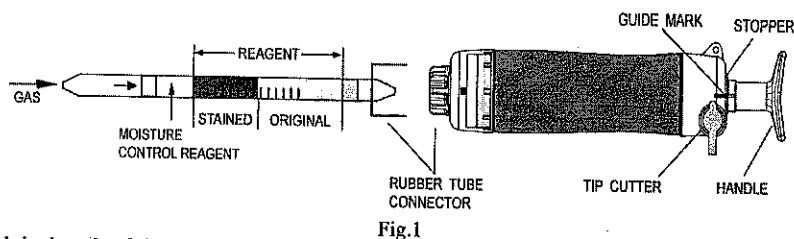

Fig.1
- ① Break both ends of the detector tube.
- ② Insert the detector tube into aspirating pump securely as shown in Fig.1. (Arrow mark shall point to the pump.)
- ③ Align the guide marks on the shaft and stopper of the aspirating pump.
- ④ Pull the pump handle at full stroke locked position and wait for 1 minute or until the completion of sampling is confirmed with the flow indicator of the pump (See descriptions about the flow indicator in the instruction manual of the pump).
- ⑤ On completion of sampling, read the scale at the maximum point of the stained layer.
- ⑥ In case of 2 pump strokes, turn the pump handle right or left by 1/4 (90°), push it towards the pump without removing the detector tube from the pump inlet, turn it right or left by 1/4 (90°) and repeat the step ③-④ once. True concentration is half of the reading value.